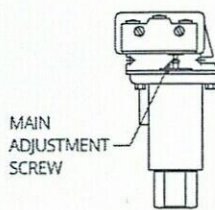

Figure 2
- ① Mount switch onto a calibrated pressure source (or vacuum source for model 22 and 126).
- ② Secure fitting to source tight enough to prevent leaks. Apply tightening torque to the fitting only.
- ③ Use pipe sealant or Teflon® tape to ensure tight seal.
- ④ Using a 1/4" open end wrench, turn main adjustment screw counterclockwise to lower set point or clockwise to raise set point. (See Figure 2).